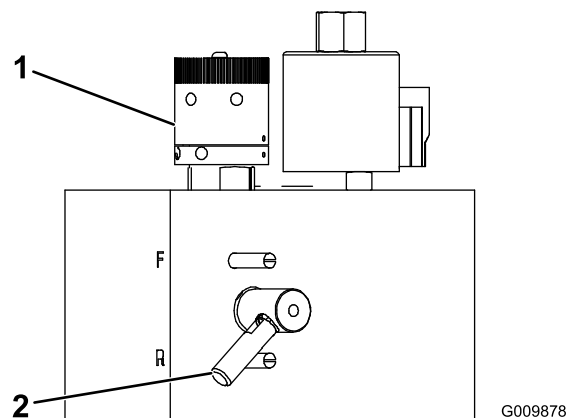

Figure 64
3. Rotate the backlap knob, on the valve block (Figure 64), to the Backlap (R) position. Rotate the reel speed knob (Figure 64) to position 1.